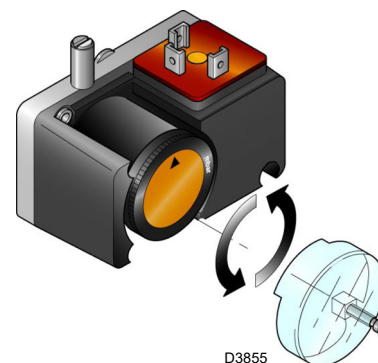

Fig. 35
- Adjust the pressure switch for the valve leak detection control device (PVP Kit)(Fig. 35 at page 35), if present, according to the instructions supplied with the Kit itself.
Adjust the pressure switch for the valve leak detection control device (PVP Kit) (Fig. 35), if present, according to the instructions supplied with the Kit itself.